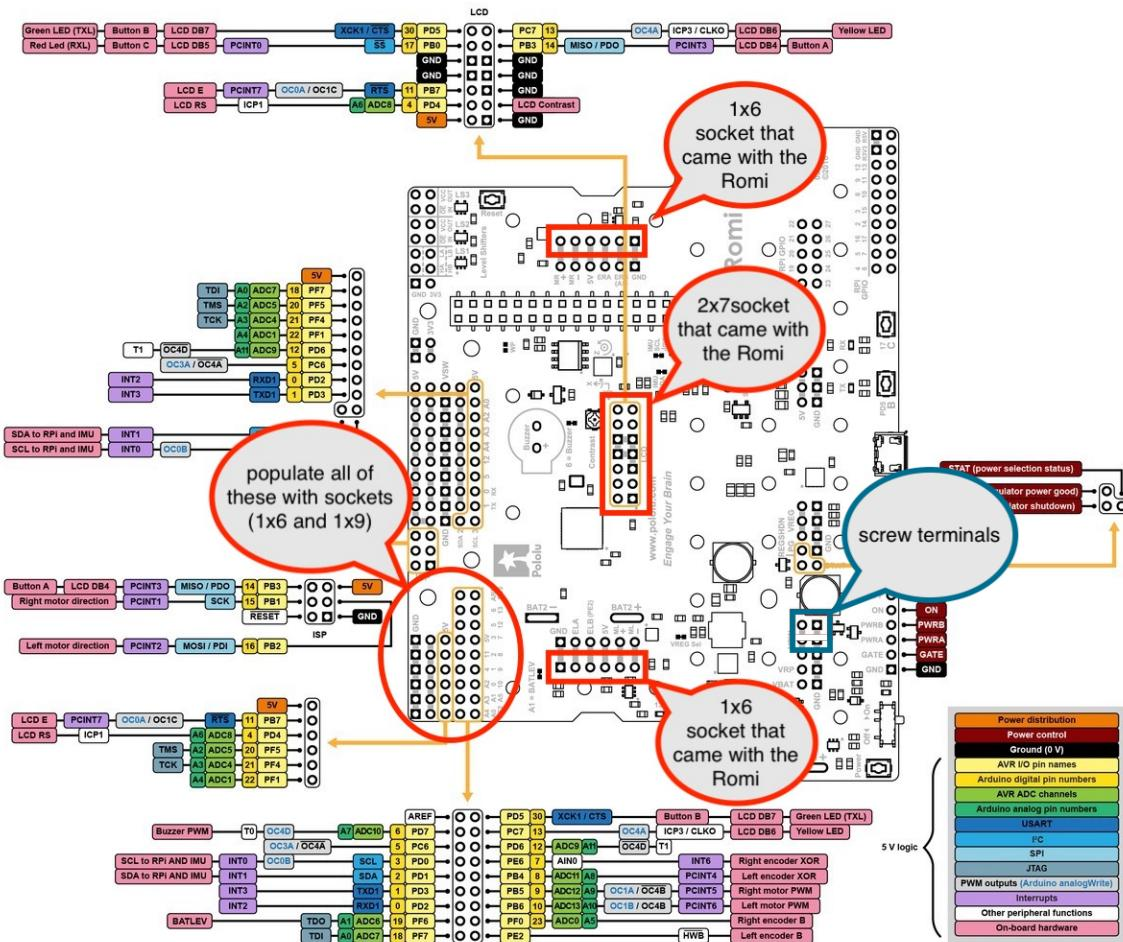

Figure 2: Romi 32U4 control board showing the additional socket locations.
1. Following the instructions in Section 4 of the Pololu Romi 32U4 Control Board User's Guide, solder the control board. Referencing Figure 2, you need to attach:
- (2) Encoder sockets as described in the User's Guide. These are the 1x6 sockets that came with the board (the shorter ones!). Put them in the outer rows, otherwise, your motors won't fit. It is best to solder one pin first and then check to be sure the socket is fully seated in and perpendicular to the control board. Once you've verified that, solder the other five pins. If you don't solder the socket in properly, you'll have trouble fitting the encoder pins from the motor – desoldering one pin is easy; desoldering six is a chore.
- (3) 1x6 and (2) 1x9 sockets in the corner of the board. Use the taller sockets here. Be sure to solder them all close to each other so that you can plug 3-wire cables in across the rows.